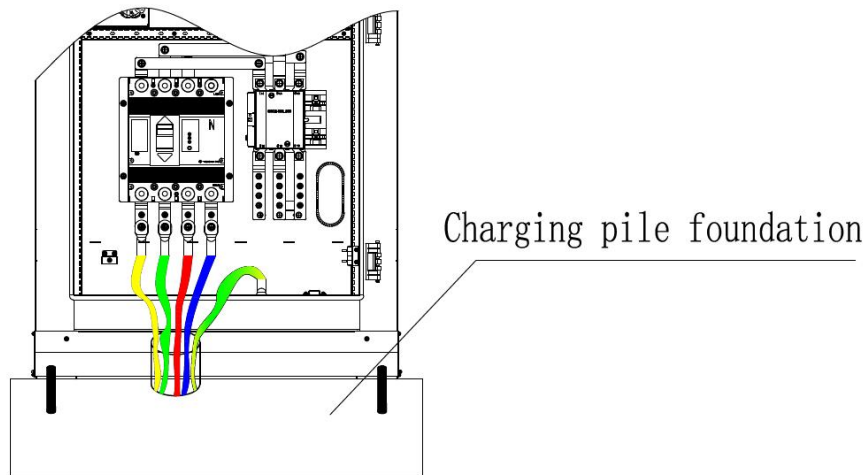

Figure 14
- Use M12 screws to secure the cable gland to the copper bar in proper sequence. The torque is 25-30N·m and should be calibrated, as shown in Figure 14.